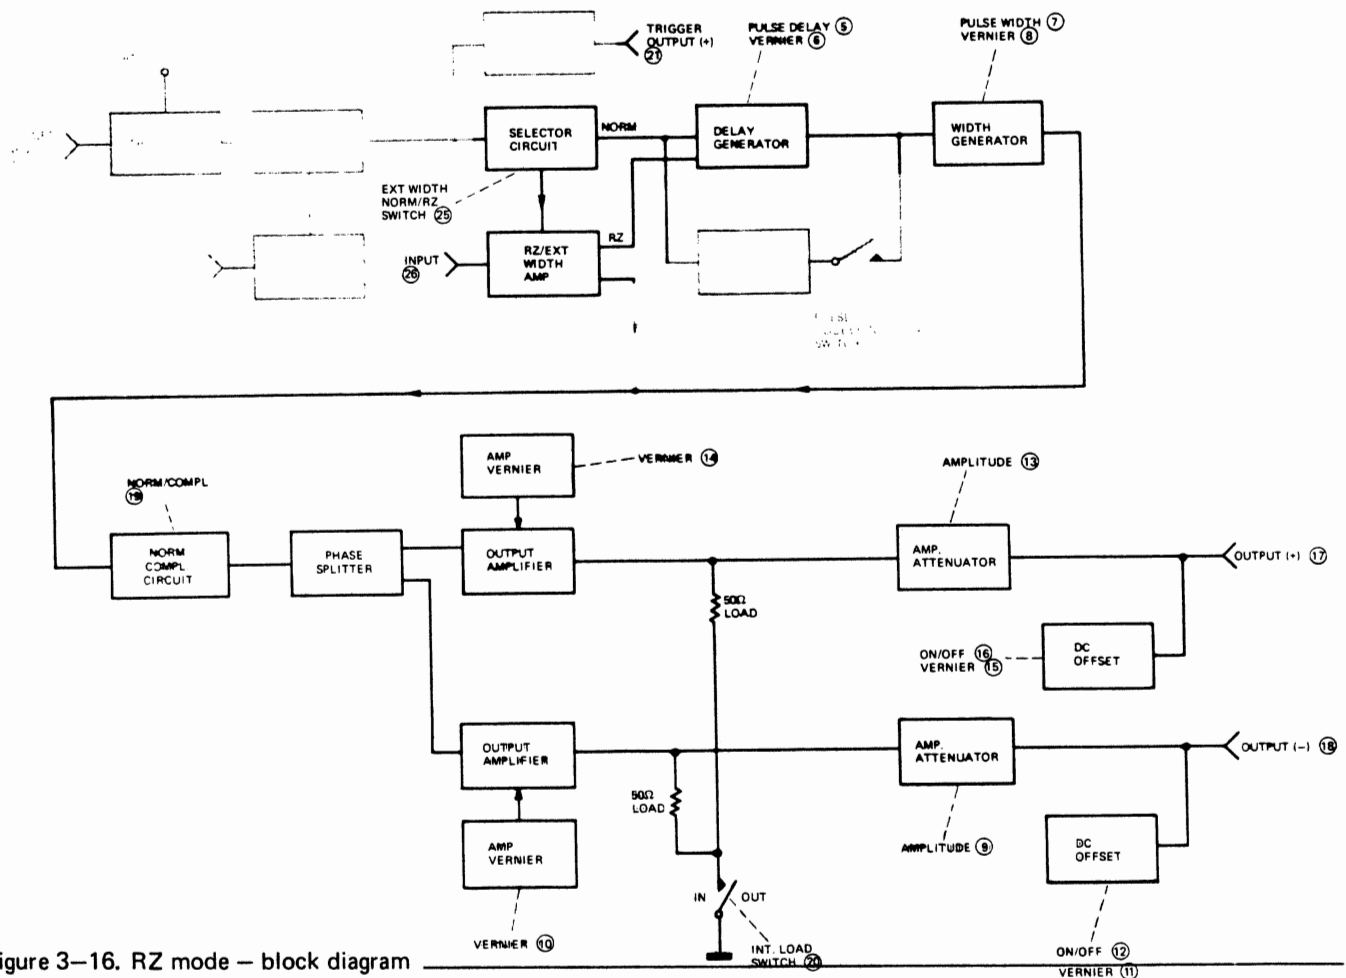

Figure 3-16. RZ mode – block diagram
3-39 In RZ mode external pulses, applied to the INPUT connector (26) on the 8013B rear panel, trigger the delay generator directly (see figure 3-16) and the shape of the output pulses is determined by the out-
3-40 The circuits and controls involved in RZ mode are shown in figure 3-16.